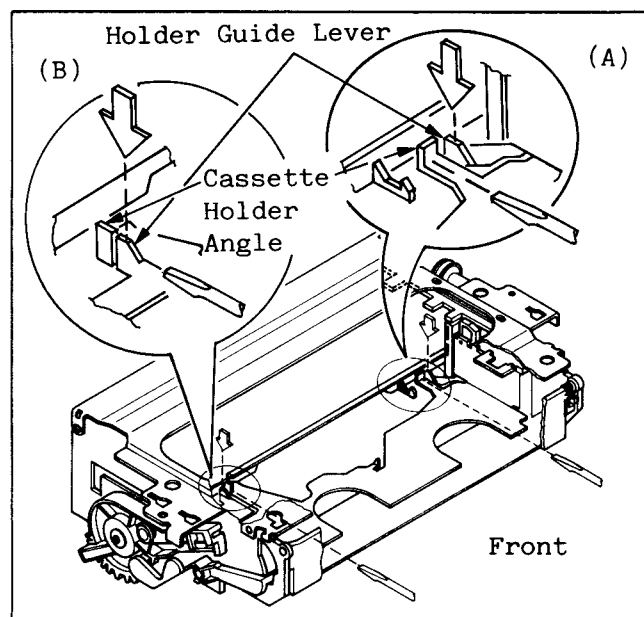

Fig. M4-2 Cassette Down Condition Without Cassette Tape
2. Insert 2 screwdrivers into the Cassette Up Unit from the front, positioning them right and left, as shown in (A) and (B) in Fig. M4-2. The screwdrivers should keep both side holder guide levers in the unlock position. By pushing down while pushing toward the rear on the Holder unit, the loading action will begin. Continue this pressure and screwdriver position until the Cassette Holder Unit clears the 3 locking tabs. After clearing the locking tabs the Cassette Up unit will move into the down position by itself.